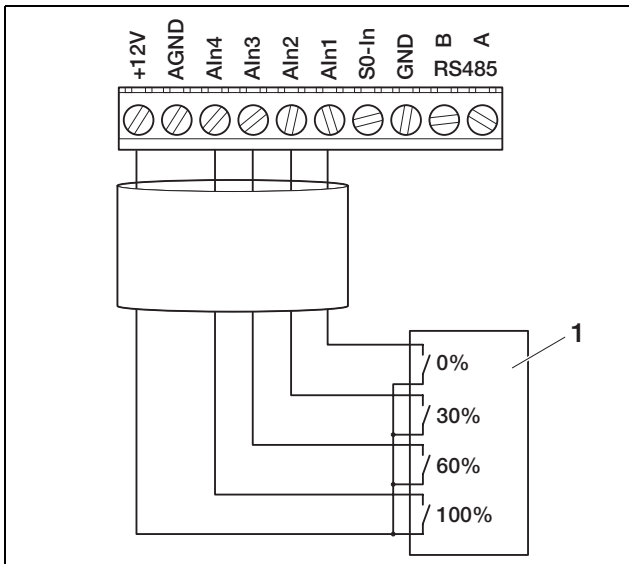

Fig. 63: Connecting the ripple control receiver to the inverter
- Connect the ripple control receiver lines in accordance with the terminal assignment (figure 63 and table 9).